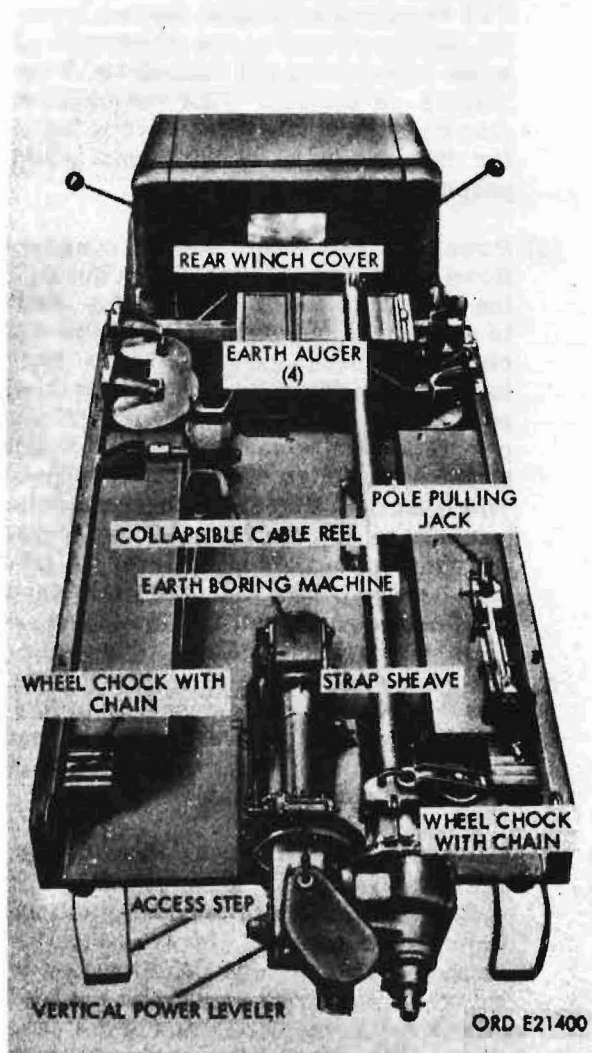

Figure 154. Earth boring machine and pole setter truck V-18A/MTQ - mounted equipment in stowed position
a. V-18A/MTQ Body. The V-18A/MTQ truck has an M34 body modified to mount the earth boring machine model HD, and V-18A/MTQ rear winch (fig. 154).
- (3) The strap sheave (fig. 154) is mounted at the rear right-hand side of the truck body. Four earth augers are mounted
f. Collapsible Cable Reel. A collapsible cable reel (fig. 154) is used with the rear winch for taking up or laying wire and light cable. The reel has six movable rim segments (fig. 145) controlled by a handle-operated sliding spider. Turning the operating handle causes the spider to collapse segments, allowing the installation or removal of wire or cable coil. When in use, the reel fits on the end of the rear winch drum shaft. The reel is stored on the cable reel holder at the left inside the body.